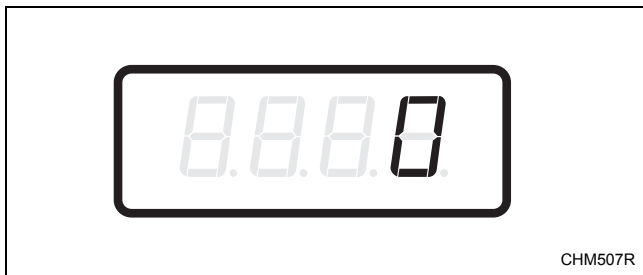

Figure 13
4. When “AtS8” appears in the display, press the START (enter) keypad. There are five digits in the Vend Price #8. The fifth digit will appear in the display and will flash one second on, one second off. Refer to *Figure 13*.